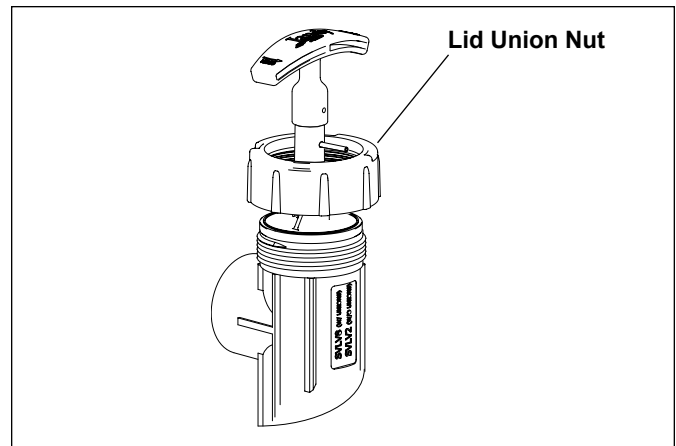

Figure 1. Loosen Lid Union Nut
2. Loosen the existing lid union nut (see Figure 1).